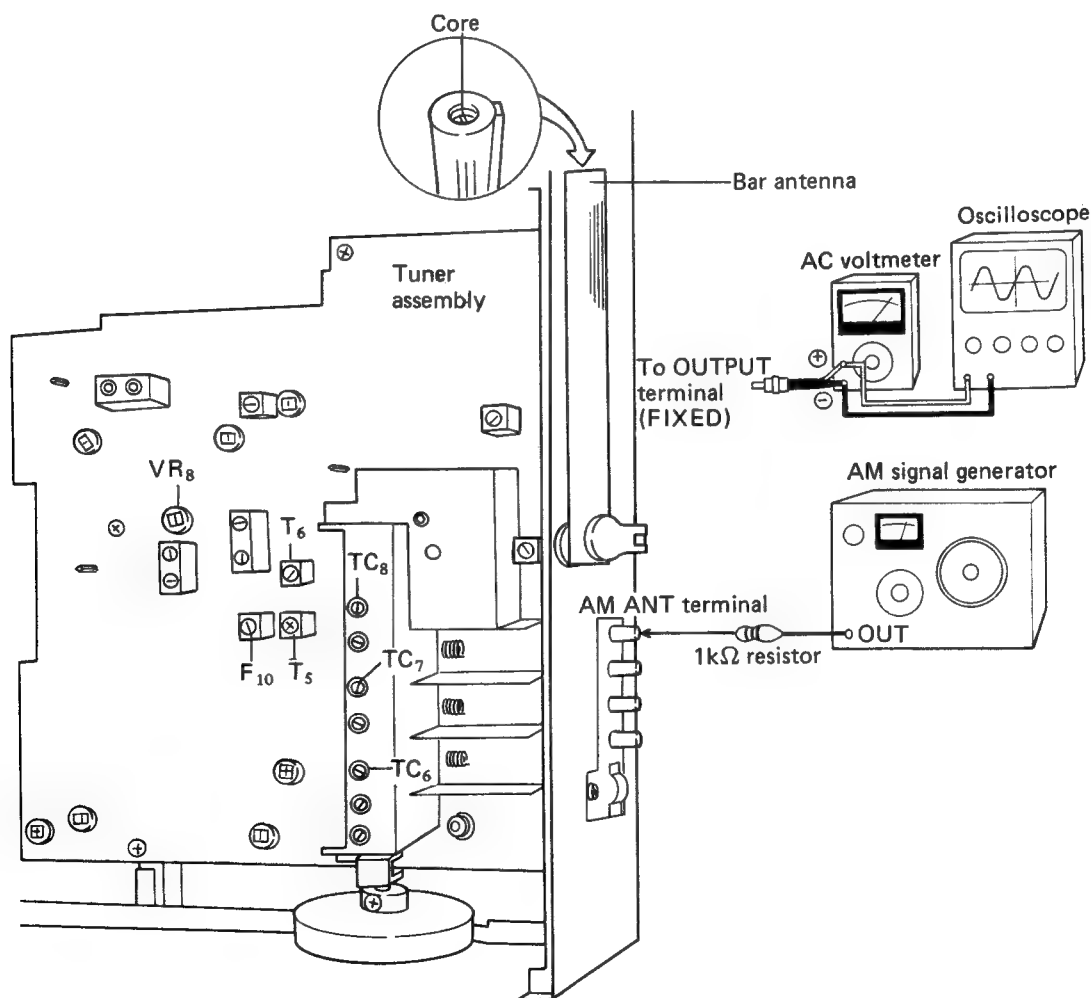

Fig. 7-1
2. Set up the test equipment as shown in Fig. 7-1.